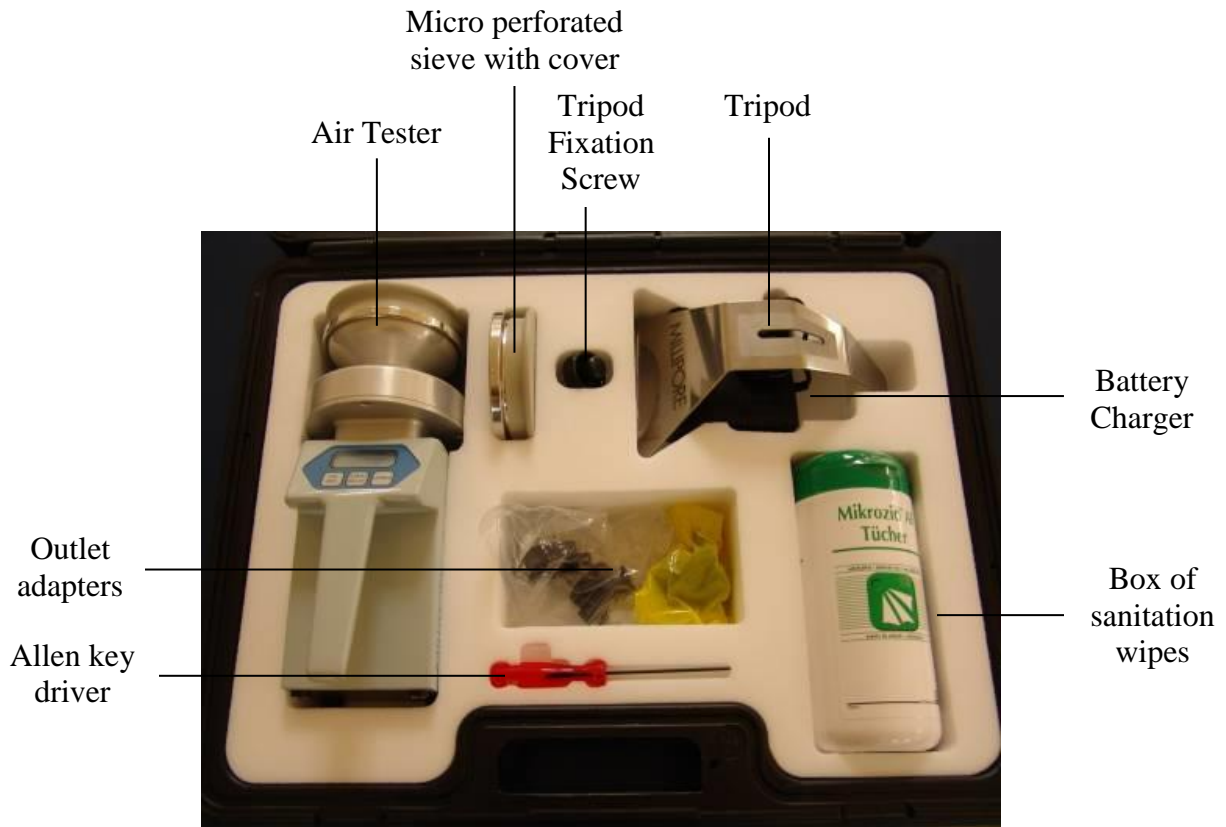

Figure 1: Diagram of the M Air T Millipore Air Tester with Components
9.1. Figure 1: Diagram of the M Air T Millipore Air Tester with Components